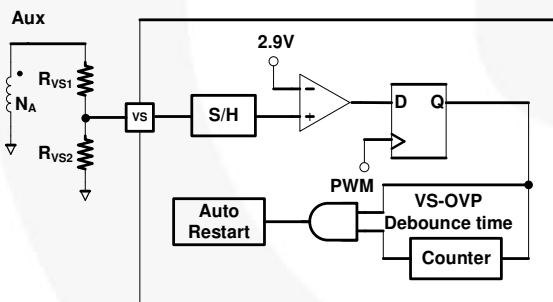

Figure 47. VS-OVP Protection Circuit
VS over-voltage protection prevents damage caused by output over-voltage condition. It is operated in Auto-Restart mode. Figure 47 shows the internal circuit of VS-OVP protection. When abnormal system conditions occur, which cause VS sampling voltage to exceed V_{VS-OVP} ($2.9V$) for more than 2 consecutive switching cycles (N_{VS-OVP}), PWM pulses are disabled and FAN602 enters Auto-Restart protection. VS over-voltage conditions are usually caused by open circuit of the secondary-side feedback network or a fault condition in the VS pin voltage divider design, R_{VS1} is obtained from Equation (10), and R_{VS2} is determined by the desired VS-OVP protection function as: